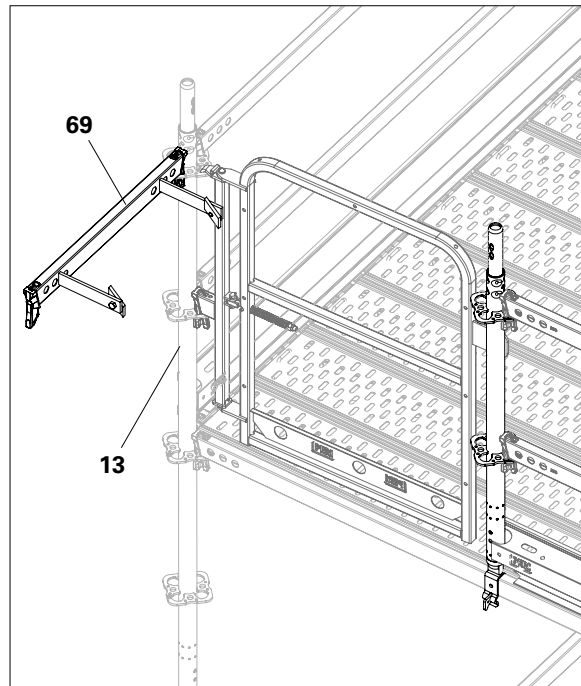

Fig. A9.11
1. Insert Ladder Connectors UAC-2 (**69**) into rosettes on torsionally stiff standards (**13**) and knock wedges into place. (Fig. A9.11)